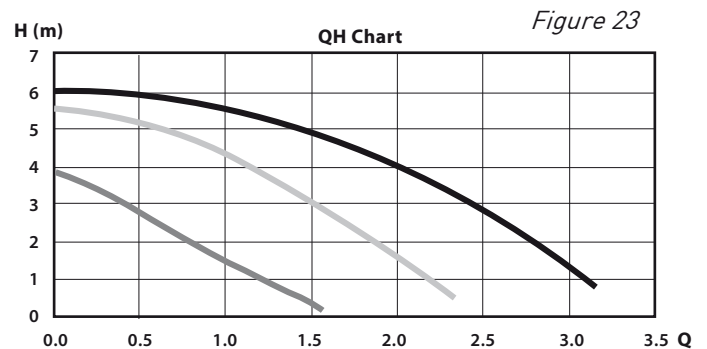

Figure 23
15.10 The boiler's integral pump is factory set to speed 2 setting to give a 1000 l/hr flow on a nominal over 4 m head. The pump may be adjusted to a lower speed to match the designed central heating system requirements. (Figure 23)